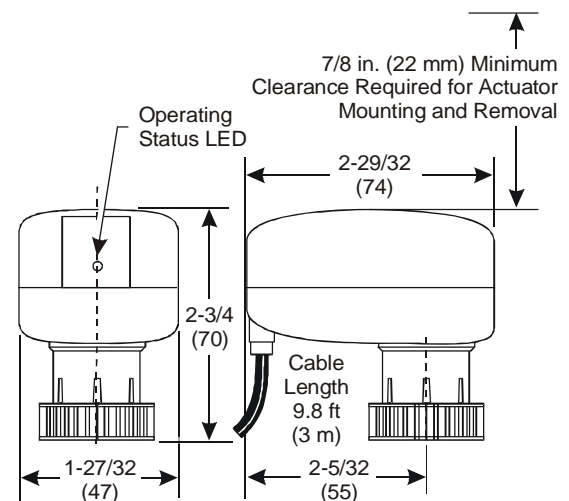

Figure 1: VA-7450 Series Electric Valve Actuator Dimensions, in. (mm)
- Allow a minimum clearance of 7/8 in. (22 mm) above the actuator body, as illustrated in Figure 1.